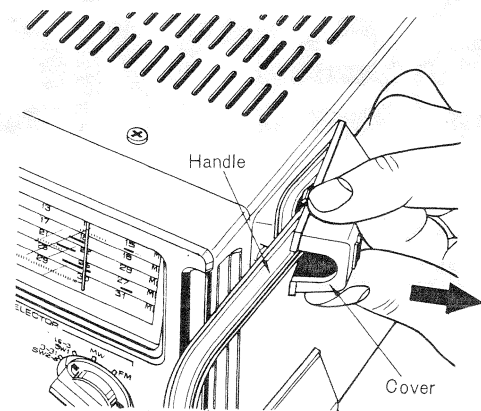

Fig. 1
1. Remove the four (4) covers for the handle in the direction of arrow, as shown in fig. 1.